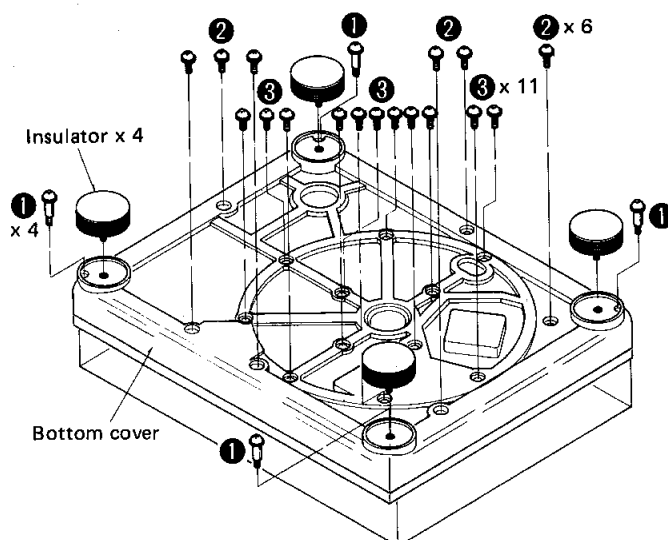

Fig. 1
3. Remove the insulators and the 21 setscrews (Fig. 1 : ①, ②, ③) of the bottom cover.